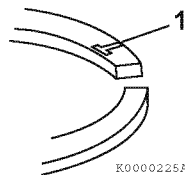

Figure 6-135
- Reinstall the top and second piston rings with the stamped “makers mark” (Figure 6-135, (1)) facing the top of the piston. The “makers mark” may vary in appearance but will always be located on the top surface of the piston ring adjacent to the piston ring gap. The oil ring and oil ring expander can be installed either side up.